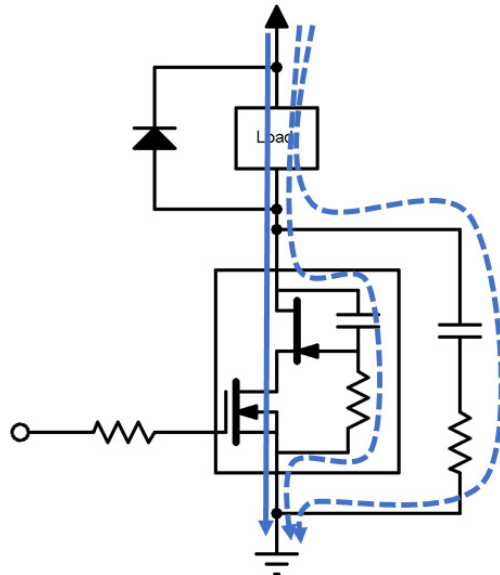
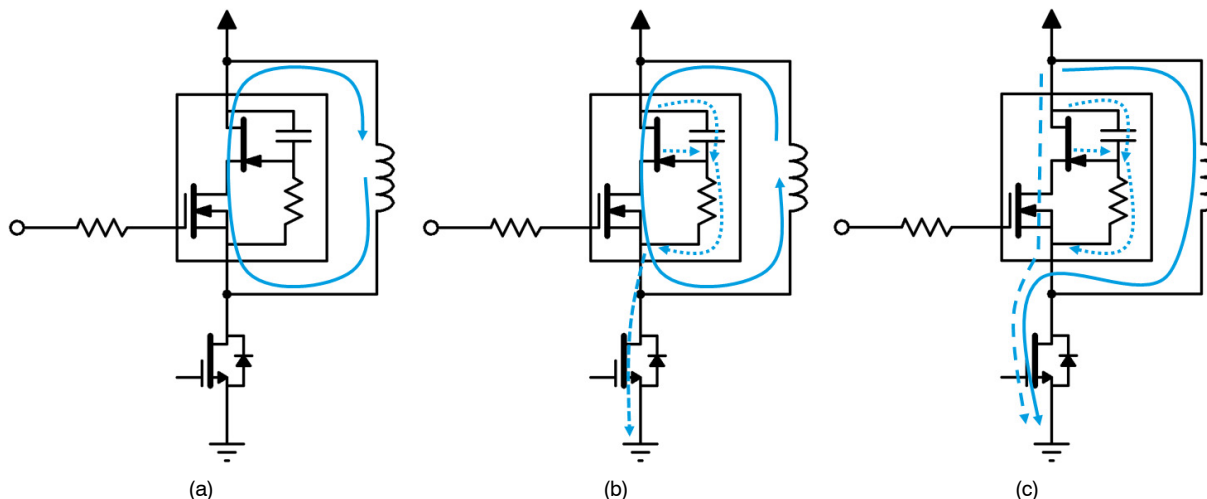

Figure 6. Cascode Turn-off with Snubber
**Figure 10. Cascode Including Stray Inductances and Relevant Capacitances**
of the cascode capacitances is valuable. Figure 6 shows a cascode switching off with an inductive load, with the cascode output capacitance (equal to the JFET gate-drain capacitance) and on-chip JFET gate resistance depicted in the cascode along with the SiC JFET and Si MOSFET.
The solid arrow in Figure 6 depicts the current flowing through the inductive load and the cascode while the cascode is on. As the cascode switches off, it becomes resistive, and current diverts to the output capacitance and JFET gate resistance as the cascode drain-source voltage increases. Only load current charges the cascode output capacitance because of the lack of gate-drain capacitance; no current is forced through the cascode gate. This results in low gate charge and immunity from  $dV/dt$  induced (parasitic)
Figure 8(a), a turn-off snubber is recommended for hard-switching, usually in the form of a resistor-capacitor (RC) snubber connected across drain and source. The cascode's fixed output capacitance is augmented with additional output capacitance plus damping resistance, both of which are adjustable based on the application requirements. Figure 6 depicts additional current diverted away from the cascode during turn-off, thus reducing  $dV/dt$  and  $di/dt$  of the cascode. In this way, the snubber compensates for the limited switching speed control provided by the cascode gate resistance.
Let us consider again the cascode in Figure 6 switching off with an inductive load, redrawn in Figure 10 but including stray inductances. As the cascode's MOSFET turns off, its resistance increases and so does the MOSFET drain-source voltage. In fact, unless the cascode gate resistance is unusually large, the cascode's MOSFET avalanches during turn-off, clamping the JFET gate-source voltage at  $-25$  V. This is completely safe for the JFET because its gate-source avalanche voltage is well below  $-25$  V. It is also safe for the MOSFET because it was designed to withstand repetitive avalanche at high currents, and the duration of the avalanche is short, so the energy is low. The load current diverts from the JFET and MOSFET channel and charges the output capacitance (and snubber capacitance) until the other device in the circuit freewheels the current.